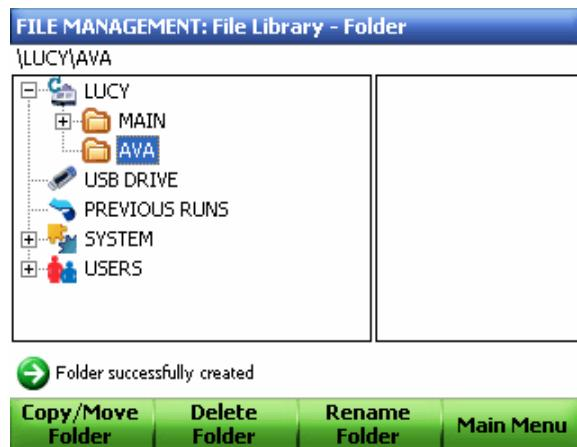

Figure 80. The newly created folder AVA appears under the LUCY thermal cycler.
4. Confirm that the folder was successfully created (Figure 80).